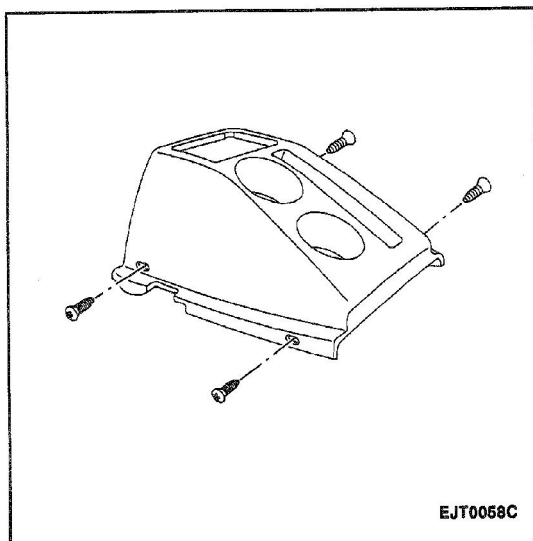

Figure 4—Parking Brake Lever Bezel
Figures 4 and 5
2. Two plastic retaining clips, two screws and parking brake lever bezel (Figure 4).